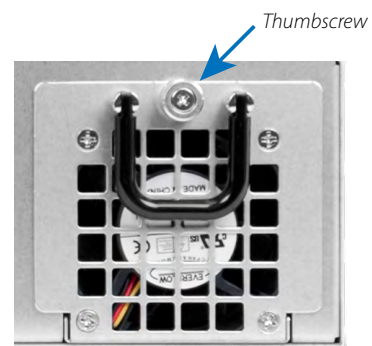

Figure 3.1.2a
2. Using fingers or a Phillips screwdriver, loosen the thumbscrew on the failed fan module as pointed to in **Figure 3.1.2a**.